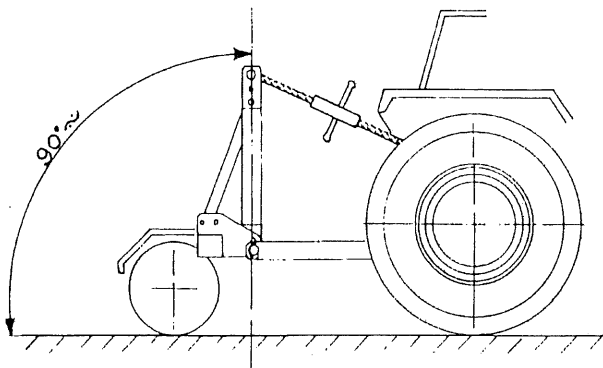

FIG. 8
10.5 - Adjust the third point arm until the machine coupling is at right angles (fig. 8).